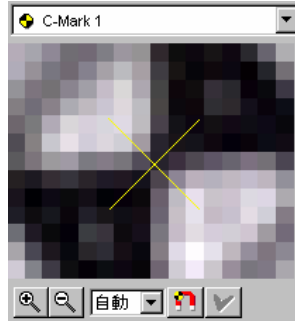

Figure 40 Adjusting Center Position
- The area clicked will be displayed in the zoom window. (Figure 40)¹⁶ If the center of the target searched has shifted, drag the center of the x mark to the center of the target and click the confirm button  to confirm the position of the target.
¹⁶ Clicking on Figure 39 automatically searches for the center of the mark and the results are shown in Figure 40.